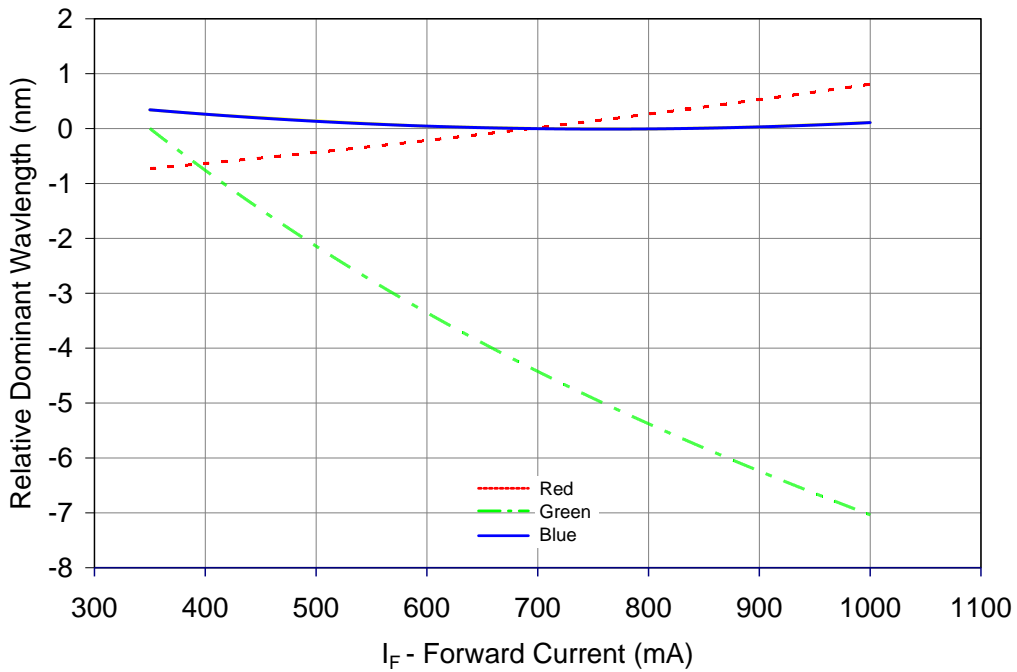

Figure 6: Typical dominant wavelength shift vs. forward current @ T_c = 25°C.
- Refer to Figure 6 for typical dominant wavelength shift over forward current.
Notes for Figure 6: